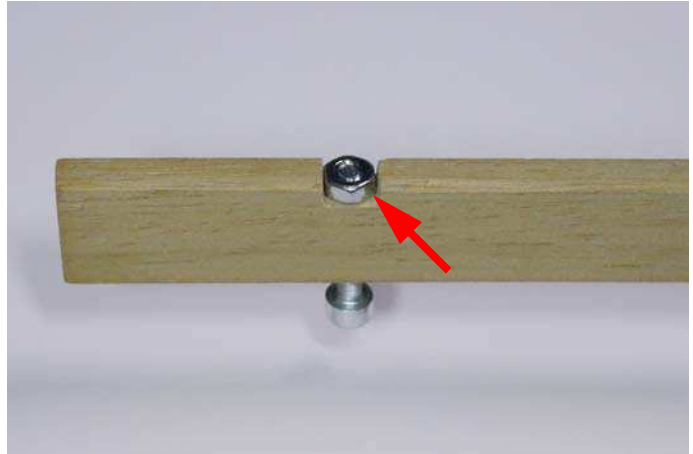

Fig.73: Nut and screw in position.
- position the nut “DB25” in the notch and lock it with a sip of cyano in the point shown in figure 73 (without to glue the screw with the nut);